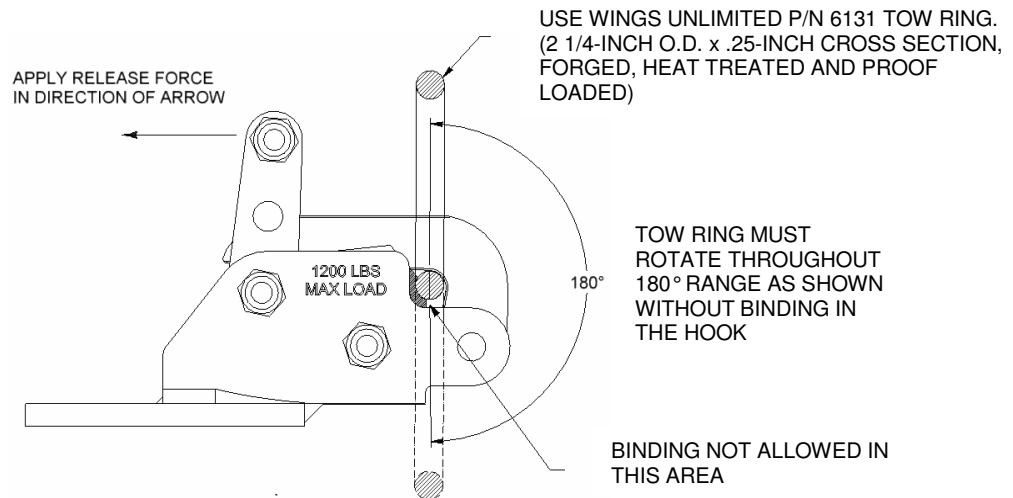

Figure 4. Tow Ring Clearance Test
3. Test the tow ring clearance to the tow hook as shown in Figure 4. The tow ring must rotate without binding. Rotate the tow ring to the opposite vertical position verifying there is no binding of the tow ring.